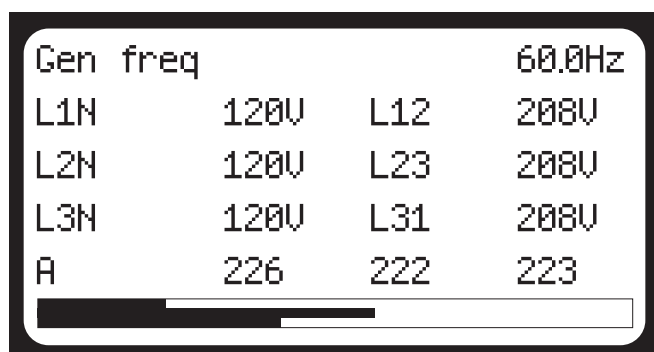

Figure 2-6. Generator Monitoring
See Figure 2-6. The generator display screen shows frequency, line to neutral voltage, line to line voltage and amperage.
See Figure 2-6. To adjust output voltage, use a flat head screwdriver to turn screw (A) in the desired direction until the required voltage shown on the LCD window matches the stated voltage on the voltage selector switch.
1. See Figure 2-6. Grip the handle located on the upper right side of the front panel.
2. Pull hood latch (A) and tilt hood open until it contacts the bulkhead panel.
1. See Figure 2-6. Verify skid is free of debris and all personnel are clear of unit.
2. Slowly push hood forward and allow it to close firmly to ensure hood latch (A) is engaged.
3. See Figure 2-6. Pull lever (A) to release primary hood latch.
4. See Figure 2-6. Grip lip of emergency stop panel (B) on right side of unit.
5. See Figure 2-6. Pull hood latch (C) on left hood side and tilt hood completely open.
6. See Figure 2-6. Verify red safety link is engaged and undamaged.